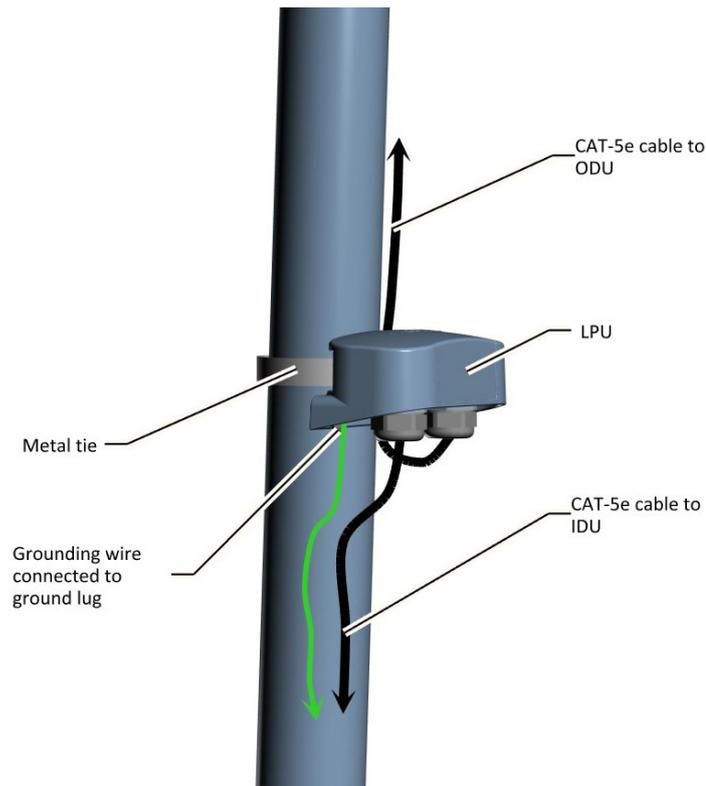

Figure 1-53: Installing an LPU on a pole (side view)
8. Route one CAT-5e/6 up to the radio, and the other down to the IDU or PoE (via the lower LPU). An LPU installed on a pole is shown in Figure 1-53.